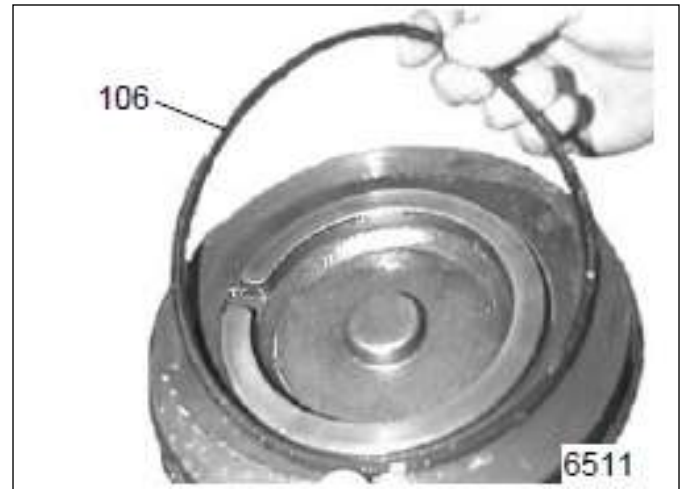

Figure 3-34: Remove O-Ring
11. Discard the O-ring, item 106. See Figure 3-34.